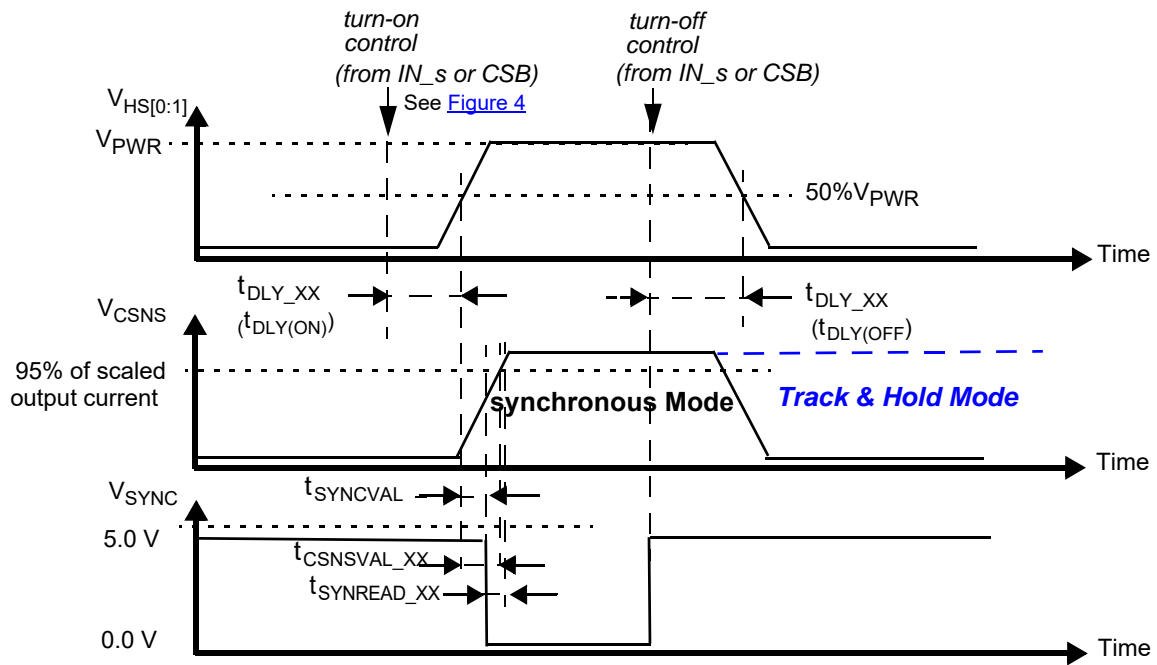

Figure 9. Synchronous and Track & Hold current sensing modes: associated delay and settling times
32. Time required to switch off the channel after detection of overtemperature (OT), overcurrent (OC), SC or UV error (time measured between start of the negative edge on the FSB pin and the falling edge on the output voltage until $V(\text{HS}[0:1]) = 50\%$ of V_{PWR}).
33. Settling time ($= t_{CSNSVAL_XX}$), SYNC output signal delay ($= t_{SYNCVAL_XX}$) and Read-out delay ($= t_{SYNREAD_XX}$) are defined for a stepped load current ($100\text{ mA} < I(\text{LOAD}) < I_{OCLX_A}$ FOR $\text{CSNS_RATIO_S} = 1$, AND $300\text{ mA} < I(\text{LOAD}) < I_{OCLX_A}$ FOR $\text{CSNS_RATIO_S} = 0$). See Figure 9 and Output current monitoring \(CSNS\).
34. Settling time ($= t_{\text{CSNSVAL_XX}}$), SYNC output signal delay ($= t_{\text{SYNVAL_XX}}$) and Read-out delay ($= t_{\text{SYNREAD_XX}}$) are defined for a stepped load current ($100\text{ mA} < I(\text{LOAD}) < I_{\text{OCLX A}}$ FOR $\text{CSNS_RATIO_S} = 1$, AND $300\text{ mA} < I(\text{LOAD}) < I_{\text{OCLX A_0}}$ FOR $\text{CSNS_RATIO_S} = 0$) See Figure 9 and Output current monitoring \(CSNS\).
The CS pin allows independent current monitoring of channel 0 or channel 1 up to the steady state overcurrent threshold. It can also be used to sense the device temperature. The different functions are selected by setting bits CSNS1_en and CSNS0_en to the appropriate value (Table 23). When the CSNS pin is sensed during switch-off in the (optional) track & hold mode (see Figure 9), it outputs the scaled value of the load current as it was just before turn-Off. When several devices share the same pull-down resistor, the CSNS pins of devices the current of which is not monitored must be tri-stated. This is accomplished by setting CSNS0_en = 0 and CSNS1_en = 0 in the GCR register (Table 10). Settling time ($t_{CSNSVAL_XX}$) is defined as the time between the instant at the middle of the output voltage's rising edge ($HS[0:1] = 50\%$ of V_{PWR}), and the instant at which the voltage on the CSNS-pin has settled to $\pm 5.0\%$ of its final value. Anytime an overcurrent window is active, the CSNS pin is disabled (see Overcurrent detection on resistive and inductive loads). The current and temperature sensing functions are unavailable in Fail-safe mode and in Normal mode when operating without the V_{DD} supply voltage. In order to generate a voltage output, a pull-down resistor is required ($R(CSNS)=1.0\text{ k}\Omega$ typ. and $470 < R(CSNS) < 10\text{ k}$). When the current sense resistor connected to the CSNS pin is disconnected, the CSNS voltage is clamped to $V_{CL(CSNS)}$. The CSNS pin can source currents up to about 5.6 mA.
To synchronize current sensing with an external process, the SYNC signal can be connected to a digital input of an external MCU. SYNC is asserted logic low when the current sense signal is accurate and ready to be read. The current sense signal on the CSNS pin has the specified accuracy $t_{SYNCREAD_XX}$ seconds after the falling edge on the SYNC pin (Figure 9) and remains valid until a rising edge is generated. The rising edge that is generated by the SYNC pin at the turn-OFF instant (internal or external) may also be used to implement synchronization with the external MCU. Parameter $t_{SYNCVAL_XX}$ is defined as the time between the instant at the middle of the output-voltage rising edge ($HS[0:1] = 50\%$ of V_{PWR}), and the instant at which the voltage on the SYNC-pin drops below 0.4 V (V_{SOL}). The SYNC pins of different devices can be connected together to save μ -controller input channels. However, in this configuration, the CSNS function of only one device should be active at a time. Otherwise, the MCU does not determine the origin of the SYNC signal. The SYNC pin is open drain and requires an external pull-up resistor to VDD.